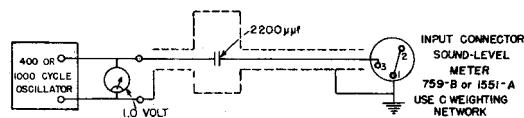

Figure 5. Circuit Diagram of Calibration System for Determining Sensitivity of Type 1551-A Sound-Level Meter.
b. Supply 1.0 volt, at 400 or 1000 cps to the input of the Sound-Level Meter through a well-shielded 2200- $\mu\mu\text{f}$ capacitor (see Figure 5).